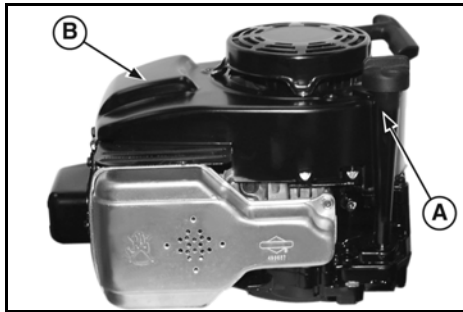

Figure 19
- Remove dipstick and oil fill tube (A, Figure 19).
- Remove blower housing and rewind starter (B).